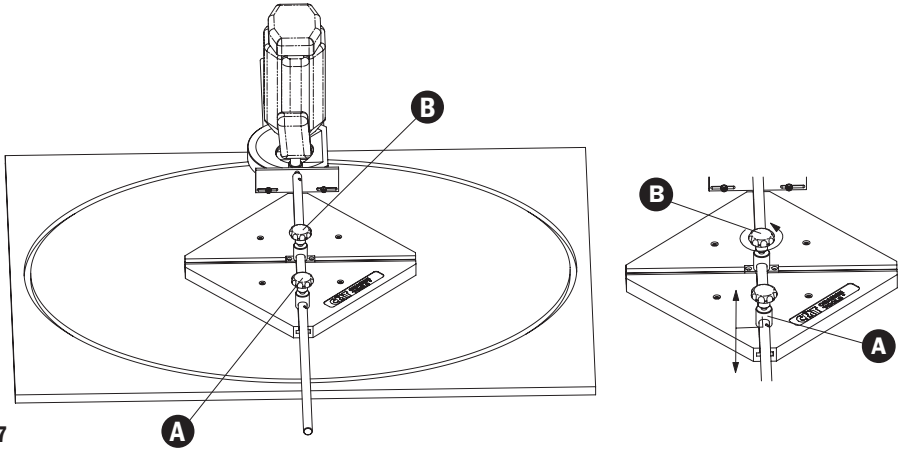

Fig. 7
(Fig. 7) Rotate the router by 90°. The cross frame (1) must not be rotated! The complete slider (B) is at the centre of the cross frame). Set the required minor semi-axis length by moving the extension (4) and (5) in the slider pin (B); the complete slider (A) remains tightened. Once the minor semi-axis has been set, tighten the bolt (7) of the complete slider (B).